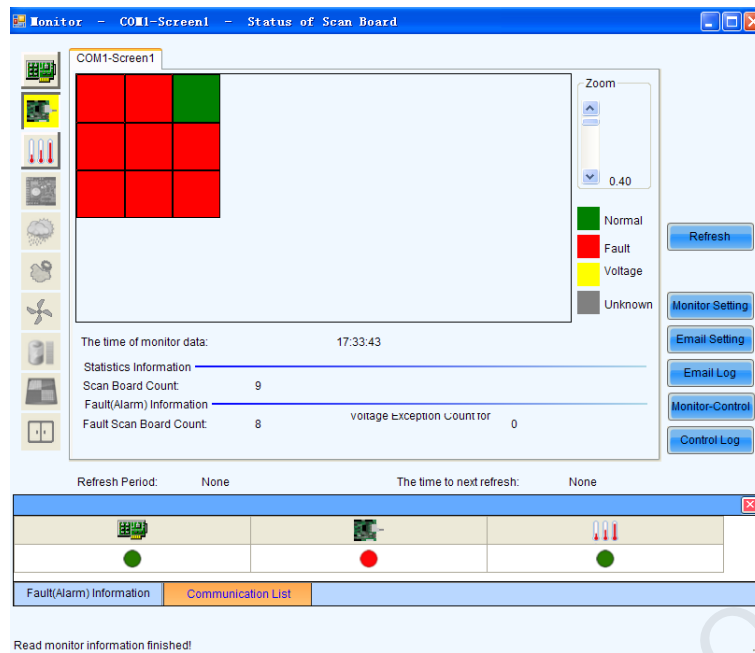

Fig. 7-38 Monitor page
- 1) Click **Email Settings** button in the Monitor Page of Fig. 7-38 to enter the email notification setting page shown as below: